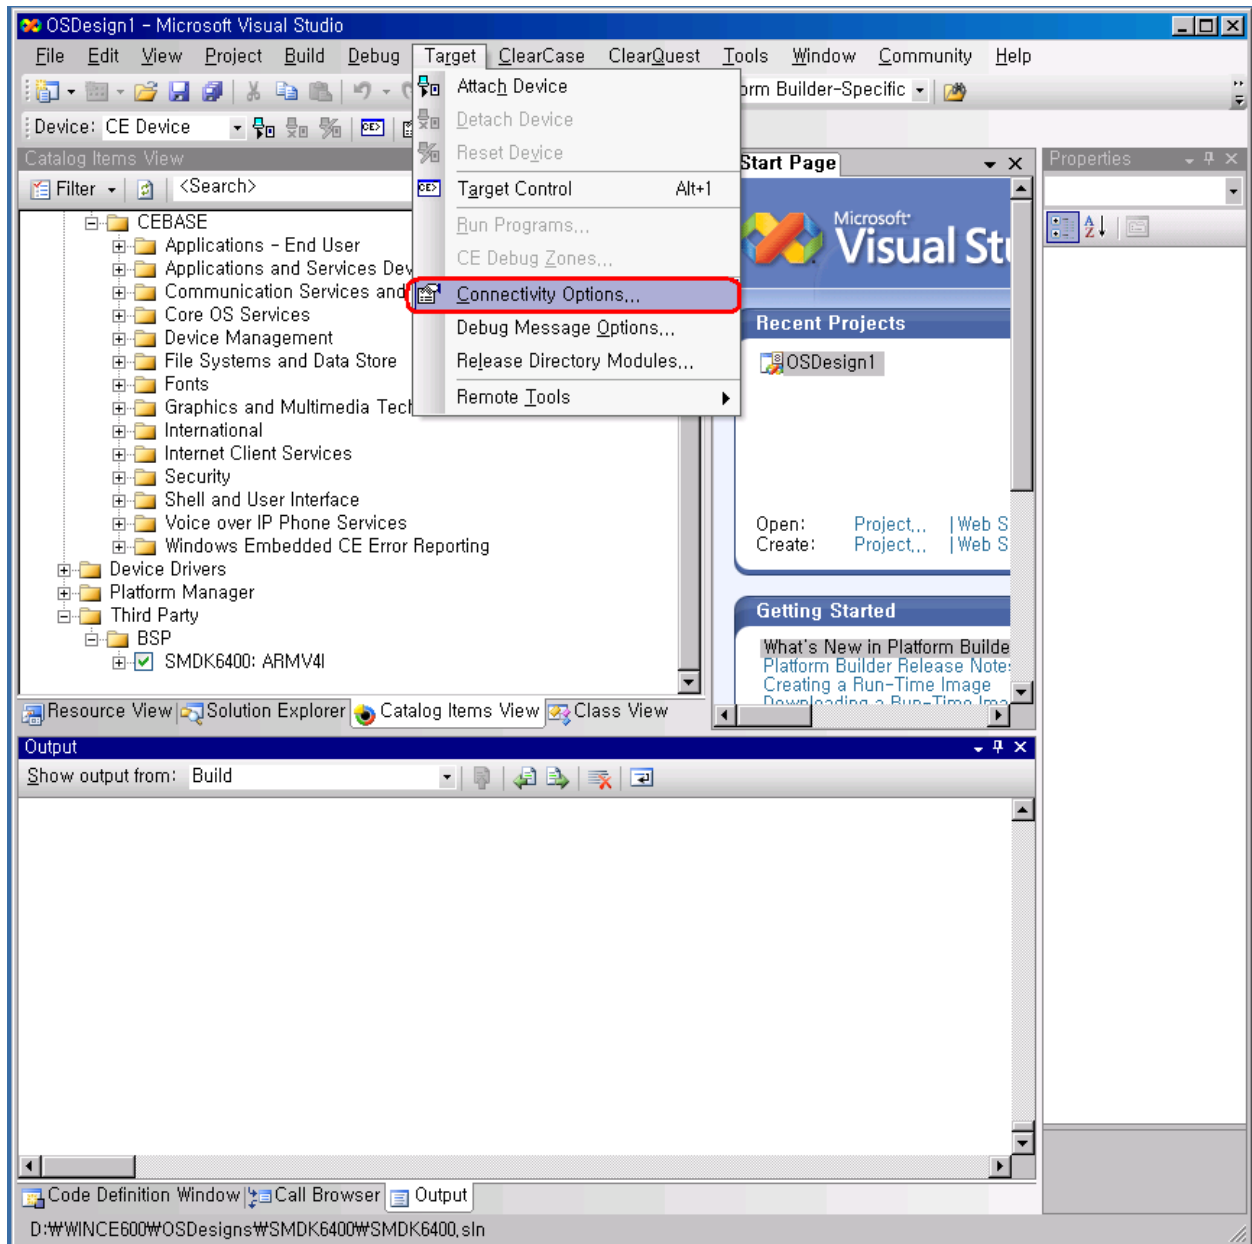

Figure 7-8 Target Connectivity Option
12. On the Target menu in the Visual Studio 2005 window, click **Connectivity Options...** as shown below. Target Device Connectivity Options window appears on your screen as shown in figure 7-8.